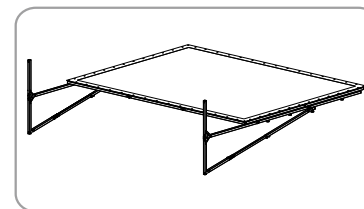

Figure 22
- Lay down the screen on flat floor with screen fabric facing up (Figure 22).